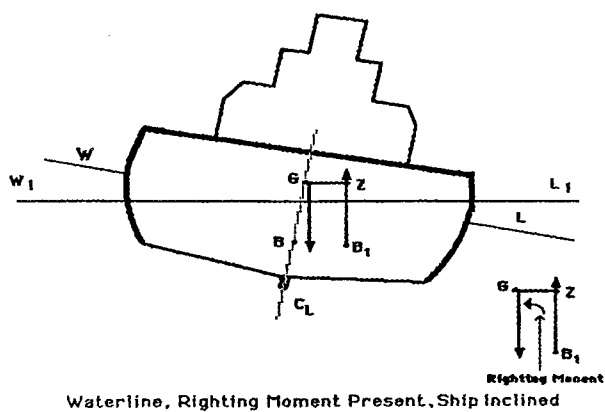

Fig. 7-5 Righting arm diagram
- e. When a ship is in a position of equilibrium, the force of buoyancy and that of gravity are of equal magnitude, but acting in opposite directions. A ship may be disturbed from its state of equilibrium by a number of external forces that tend to heel it. These forces include those generated by shifting cargo; by free surface from flooding; or from fluids such as fuel and water shifting in tanks, wind, wave motion, current, icing conditions and the speed of the cutter through the water. When an external force is applied, the centers of buoyancy and gravity are no longer aligned vertically and these forces tend to rotate the ship, until a new position of equilibrium is found (positive stability) or until the ship capsizes (negative stability). These external forces exert heeling moments on the ship that may be short-lived or may last indefinitely. A stable ship does not capsize when subjected to normal disturbances because when it is inclined, the center of buoyancy shifts to one side of the center of gravity, creating a moment that tends to right the ship. This is called the righting moment (see **Figure 7-5**). The distance, GZ, between the parallel lines of force passing through G and B, is called the righting arm. When the righting arm is reduced, perhaps by added topside weight, the moment moving the cutter back into equilibrium is lessened and the stability of the cutter is reduced.
- g. Draft and trim have considerable bearing on cutter stability. A change in mean draft will affect the height of the metacenter, thus altering, GM, and both draft and trim affect the cutter's reserve buoyancy. Safe operating parameters are listed in the stability booklet. Limiting Trim Diagrams, shown in Figure 7-5, are presented in most stability booklets. Although at first look these graphs can be quite confusing, they merely show a range of drafts and trims within which a cutter will have sufficient reserve buoyancy, even if flooded in various compartments.
- a. Recognizing a Reduced Righting Arm. The signs of a reduced righting arm, or GZ (**Figure 7-5**), and a subsequent loss of righting stability are:
- (1) A long, slow roll compared to that which would be ordinarily expected for the wind and sea conditions.
- (2) The cutter's hanging at the end of a roll without quickly snapping back to an even keel.
- (3) The longer and slower the roll, the greater the danger of capsizing.